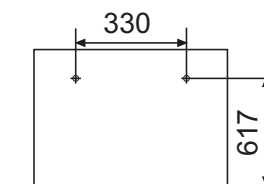

Figure.2
- According to the dimension of the figure 2 shown, nail two cement steel nails on the wall,Keep 2~3 mm out.then hang the back of the unit on them.